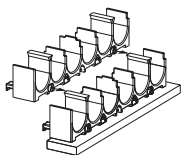

Figure 4
- 4) Installation of the next level of Stackable Cable Rack Spacers is accomplished by sliding the male dovetail into the female dovetail slot (Figures 4, 5, and 6). The latch(s) will lock the parts into position. To unlock these parts, use a screwdriver or a small tool to release latch(s) and slide in opposite direction.